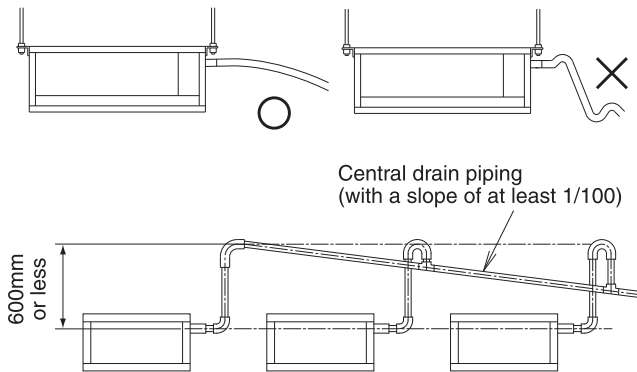

Fig. 10
(1) Install the drain piping.
- Keep the drain piping short and sloping downwards at a gradient of at least 1/100 to prevent air pockets from forming. (Refer to Fig. 10)
- Do not twist or bend the drain hose (2), so that excessive force is not applied to it. (This type of treatment may cause leaking.)
- If you are using central drain piping, follow the procedure outlined in the figure 10.
(2) After piping work is finished, check drainage flows smoothly, with manner described below.